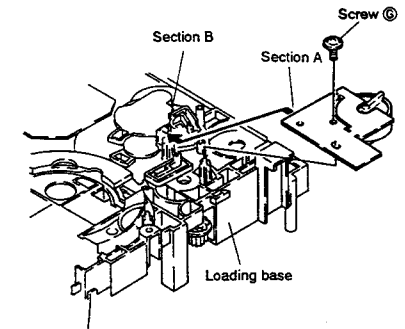

Fig. 2-10
- (3) As shown in Fig. 2-10, after turning over the loading base, insert section A into the section B as the arrow shows, and fix with the screw ⑤.